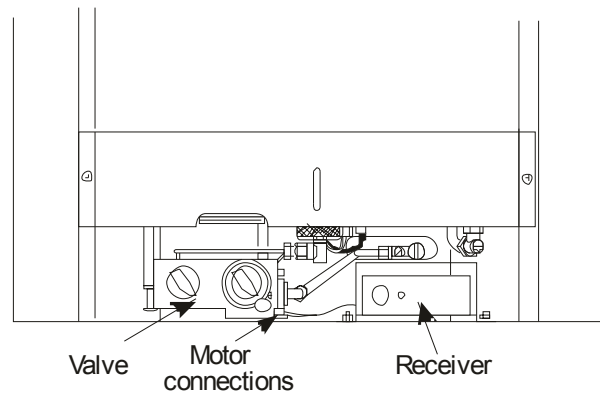

Figure 58
4. Position the receiver under the heat shield as shown **Figure 58**.